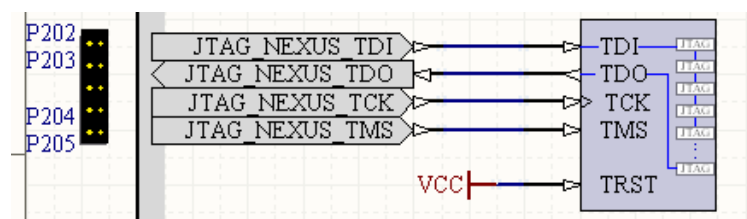

Figure 3. Implementing the soft devices chain within the design.
**Note:** In order to communicate with soft devices in a design (processors and/or virtual instruments) you must enable the soft devices JTAG chain within the design. This is done by placing a JTAG Port (NEXUS\_JTAG\_CONNECTOR) and corresponding Soft Nexus-Chain Connector (NEXUS\_JTAG\_PORT) on the top schematic sheet of the design, as shown in Figure 3.